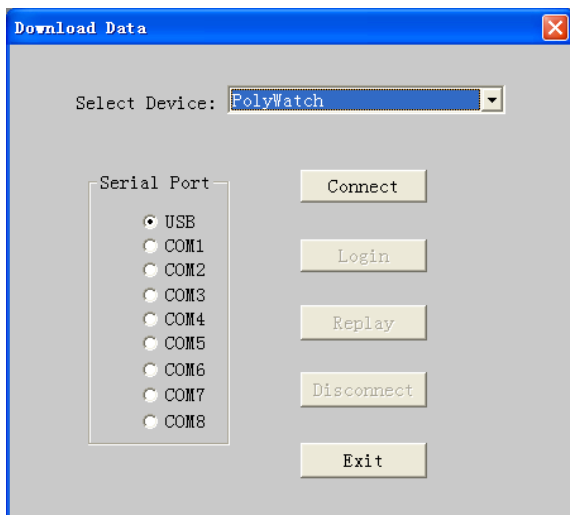

Figure 2-1 “Download Data” dialog box
Run the software and choose the “File” from the main menu, select "New" to enter the communication interface. From the “Select Device” drop-down menu, select “PolyWatch”, and then select the “USB” serial port. At last, click on “Connect” (Figure 2-1).
- ① *Do not connect YH-600A Pro to a USB hub.*
- ② *Only one YH-600A Pro can be connected to the computer at any time.*
- ① After recording, the data can be transmitted to a computer for further analysis. Besides, YH-600A Pro allows the analyzed data to be manually edited to remove the recording mistakes.
- ② Run the software and choose the "File" from the main menu, select "New" to enter the communication interface. From the "Select Device" drop-down menu, select "PolyWatch", and then select the "USB" serial port. At last, click on "Connect" (Figure 2-1).
- ③ If connection succeeds, the "Connect" button will be grayed. And other originally grayed unavailable buttons will be available now. After connection with the computer, YH-600A Pro will automatically enter the communication status.
- ④ After connection is established, click "Replay". A window for selection of data to be downloaded will pop up, as shown in Figure